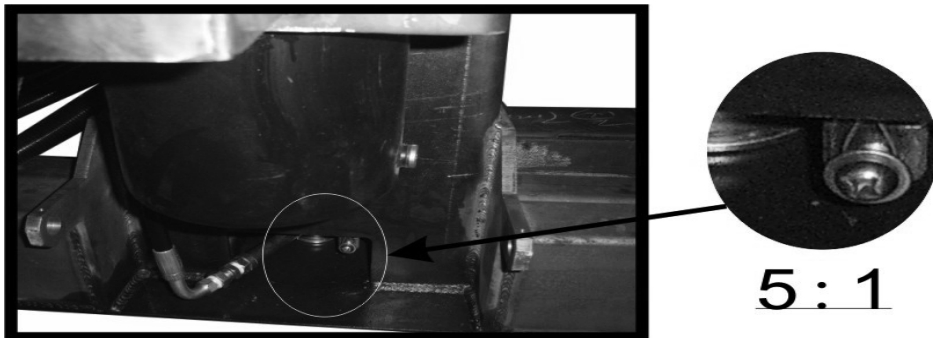
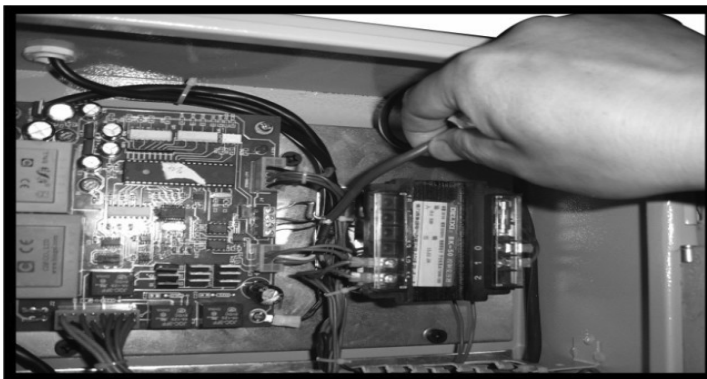

Fig.21
Fig.22
- 2) Take out the displacement sensor and its bracket: Firstly loosen the setscrew of the sensor cable from the hole at the rear bottom of the column (fig.21), meanwhile hold the cable and draw it back slowly; Secondly take out the bracket; Then take out the signal cable in the control box. Finally take off the sensor and position it safely against any possible impact. Please refer to the connection of the signal cable as Fig. 22,23 to take out the signal cable;